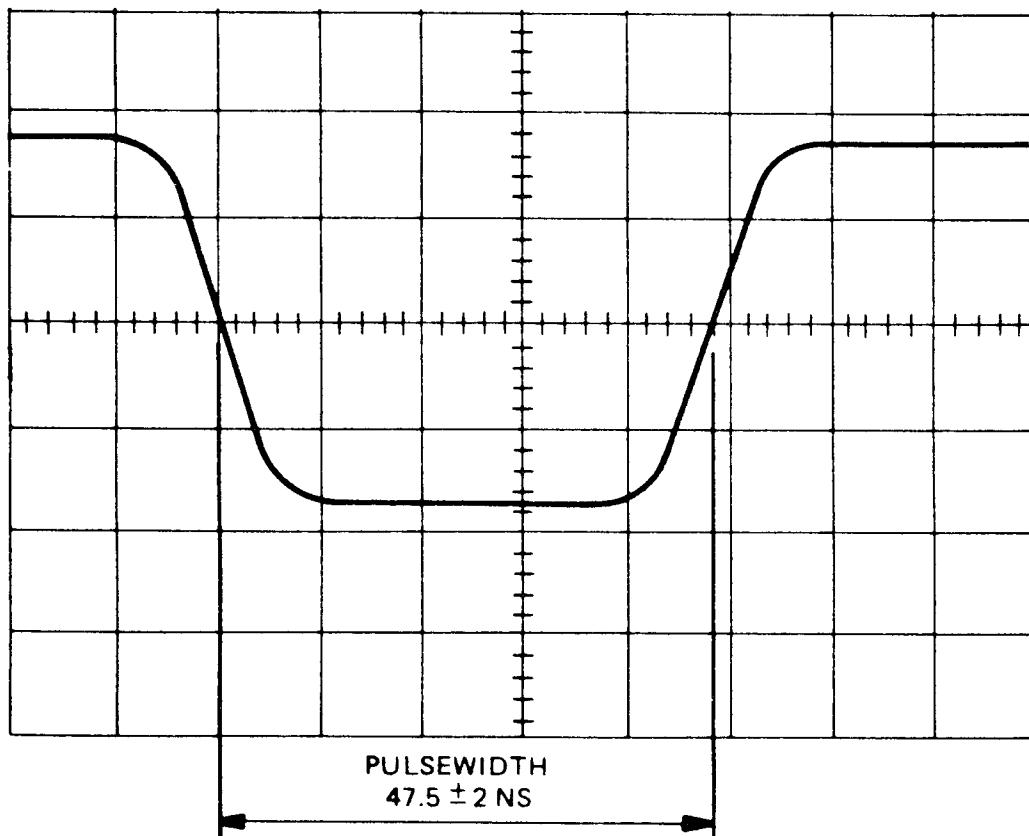

Figure 3-7. Data Window Width
18. Adjust R36 for a data window pulselwidth of 47.5 nanoseconds measured at the midamplitude points (Figure 3-7).